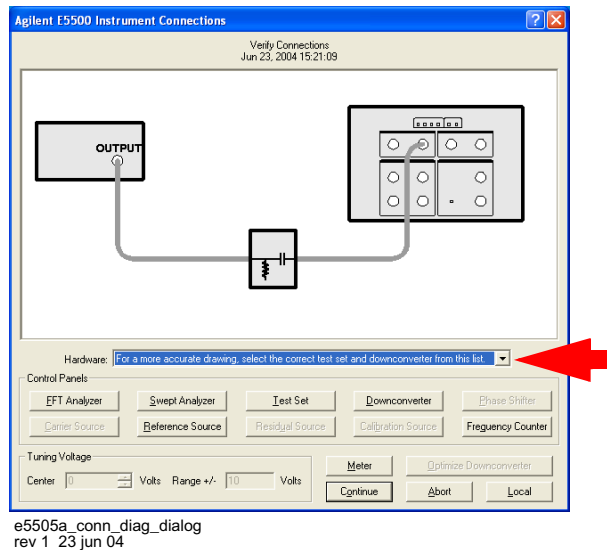

Figure 56 Connect diagram dialog box
- 3 When the **Connect Diagram** dialog box appears, click on the hardware drop-down arrow and select your hardware configuration from the list. See Figure 56 on page 91.
- 4 Connect your DUT and reference sources to the test set at this time. Confirm your connections as shown in the Connect Diagram (Figure 56).